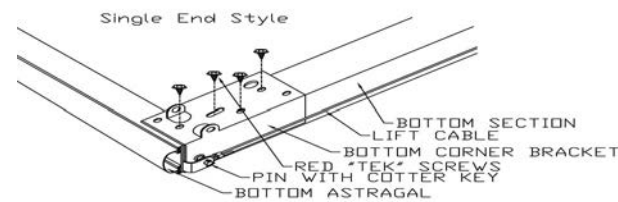

Figure 2
Step 3: Attach the loop on the lift cables to the pin on the bottom corner bracket. See figure 2 & 3.
Step 4: Attach bottom corner brackets to the bottom section with at least four 1/4" x 3/4" RED self-drilling TEK screws. See figure 2 & 3.